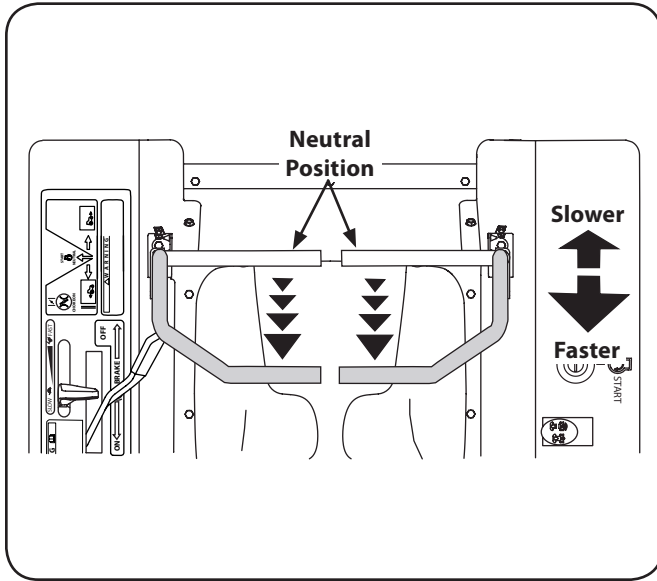

Figure 1-5
1. Slowly and evenly move both drive control levers rearward. The tractor will start to move in the reverse direction. See Figure 1-5.